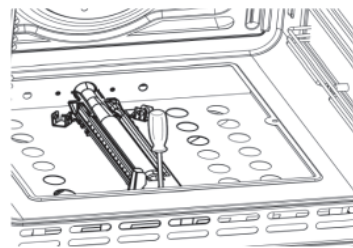

Fig. 31
- Remove the screws and remove the burner screw «A» (Figure 31).